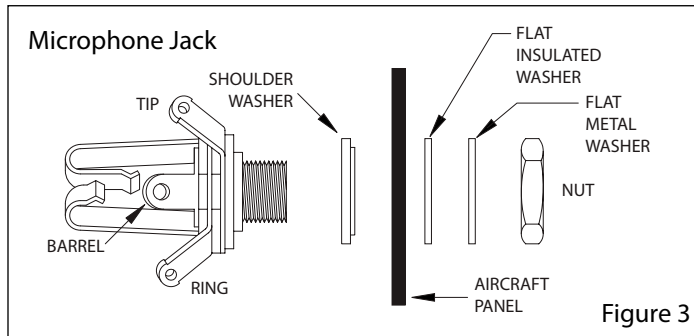

Figure 3
3. Drill  $\frac{1}{2}$ " diameter holes for mic jacks and install with insulating washers supplied. (See Figure 3).